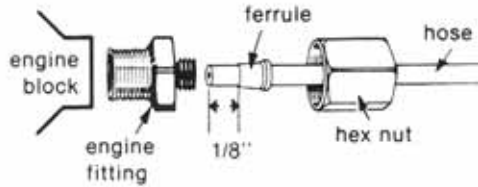

FIGURE 5
- a. If only the gauge is to be used, connect the hose and the fittings directly to the engine as shown in Figure 5.